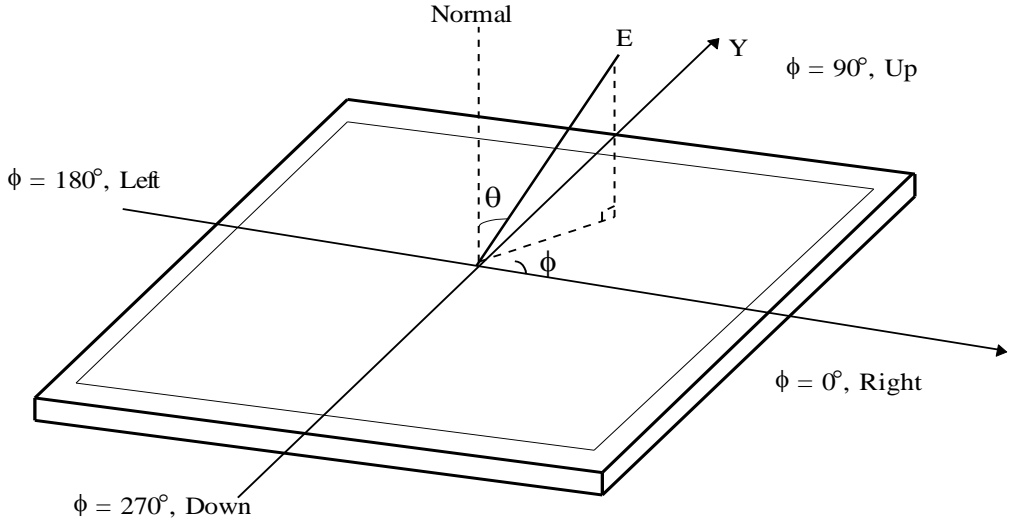

FIG. 5 Viewing Angle
- Viewing angle is the angle at which the contrast ratio is greater than 10. The angles are determined for the horizontal or x axis and the vertical or y axis with respect to the z axis which is normal to the LCD module surface. For more information, see the FIG. 5.